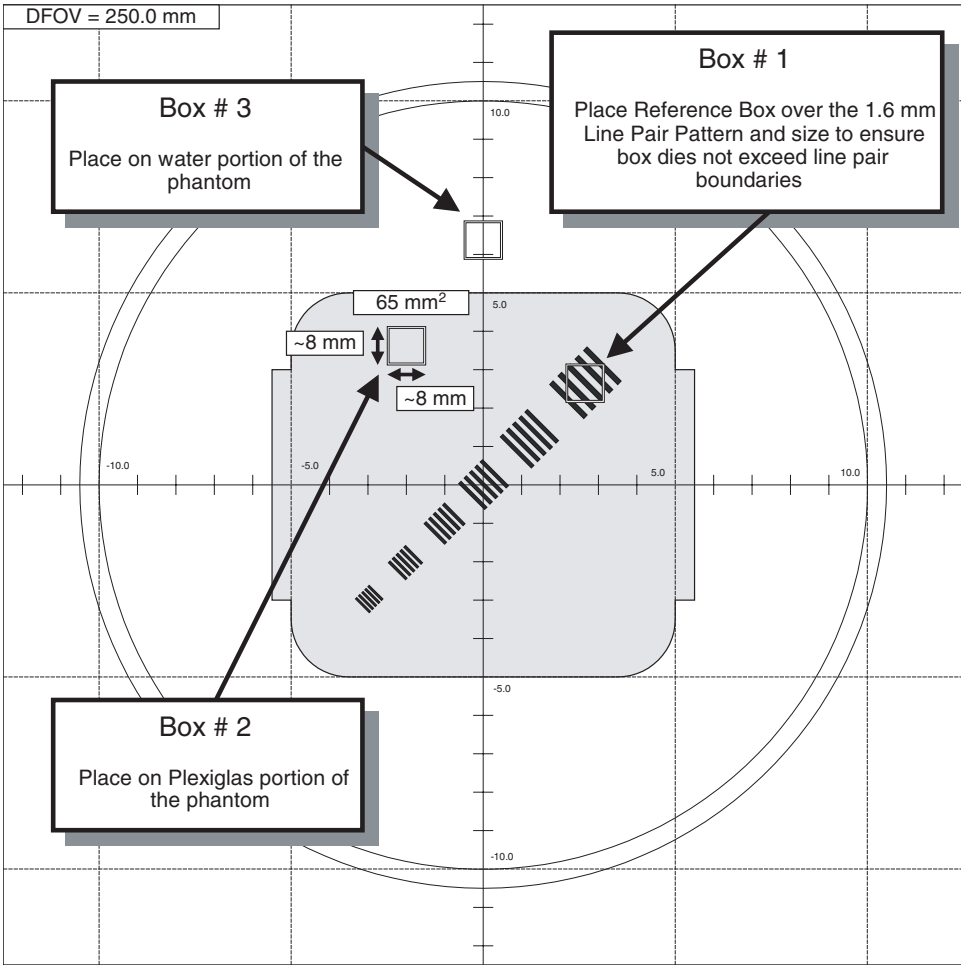

Figure 11-6 20cm QA#1 Phantom High Contrast Spatial Resolution Testing - Building And Placing Reference ROI Boxes
- c.) Adjust the size of the ROI box to be a square of approximately 8 mm x 8 mm (64 mm²) box. If required, magnify the image to adjust to proper dimensions. See Figure 11-6 for additional ROI size and placement information.
If required, magnify the image to adjust to proper dimensions. See Figure 11-6 for additional ROI placement information.
- a.) Position the reference ROI Box built in step 2 directly over the 1.6 mm Line Pair Pattern on the QA#1 phantom image. Fine adjust size of Box #1 ROI to ensure that the box does not exceed the line pair boundaries. See Figure 11-6.
- d.) Reposition Box # 2 over the Plexiglas portion of the QA#1 phantom image (Box # 2 position in Figure 11-6).
- g.) Reposition Box # 3 over the water portion of the QA#1 phantom image (Box # 3 position in Figure 11-6).